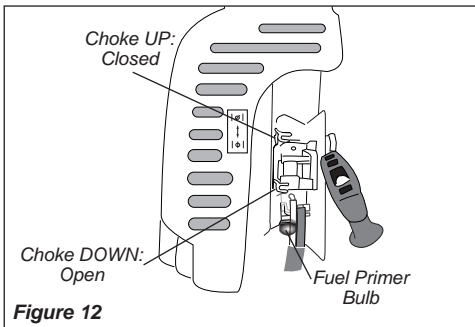

Figure 12
3. **Cold Engine Only.** Choke the engine by moving the choke lever up (choke is closed). See Figure 12.